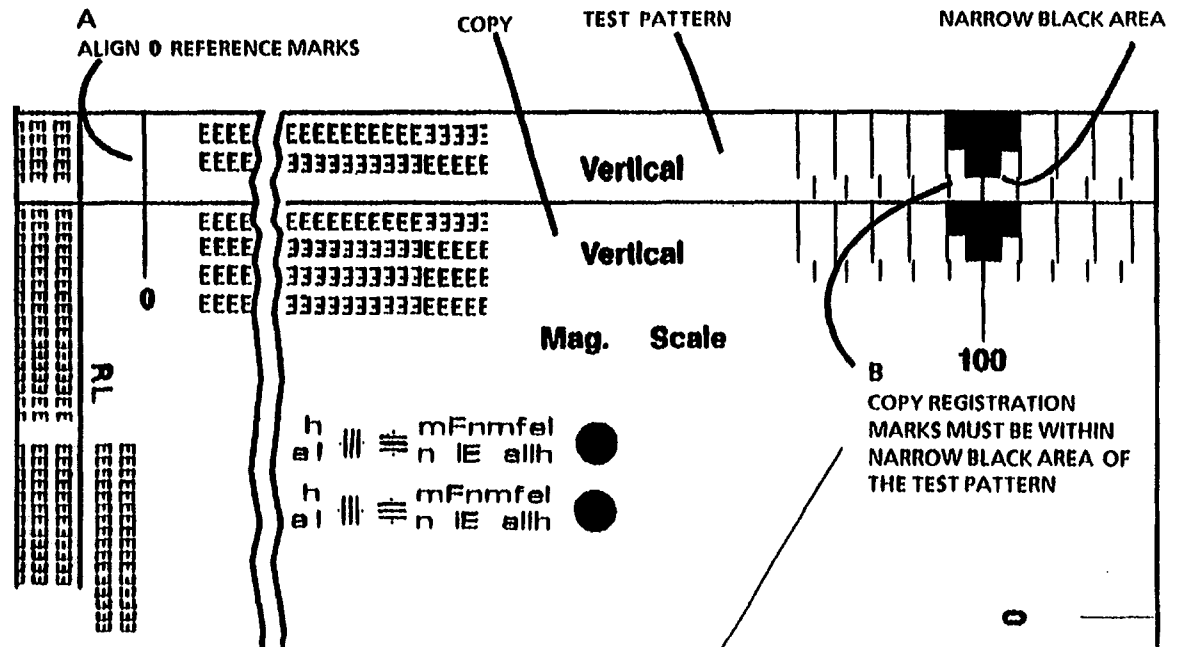

Figure 1. Compare the Reference Marks on the Test Pattern with the Marks on the Copy
4. (Figure 1): Compare the Vertical Mag. Scale reference marks on the test pattern with the marks on the copy.